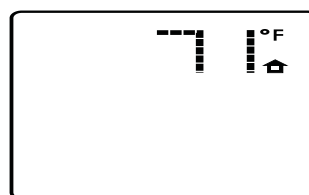

Figure 21 - Remote Display
- Replace battery housing cover. When batteries are installed, the "little house" icon with current room temperature will be displayed (see **Figure 21**). This icon will always show in the control window as long as the batteries have power.